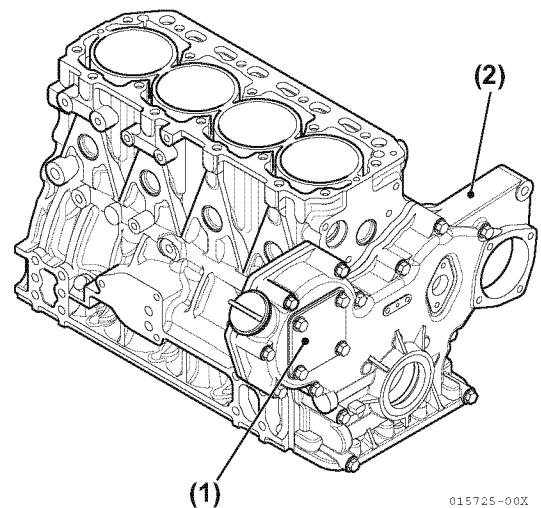

Figure 6-31
14. Remove the fuel injection pump drive gear cover (Figure 6-31, (1)) from the gear case cover (Figure 6-31, (2)).